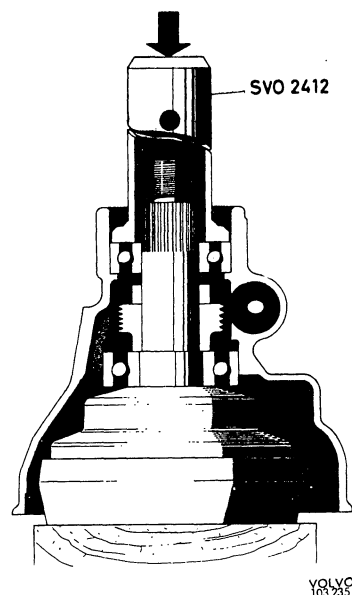

Fig. 4-43. Fitting output shaft
3. Place a wooden block under the output shaft as support. Fit the speedometer driving gear and spacer. Press on the rear casing with drift SVO 2412, see Fig. 4-43.